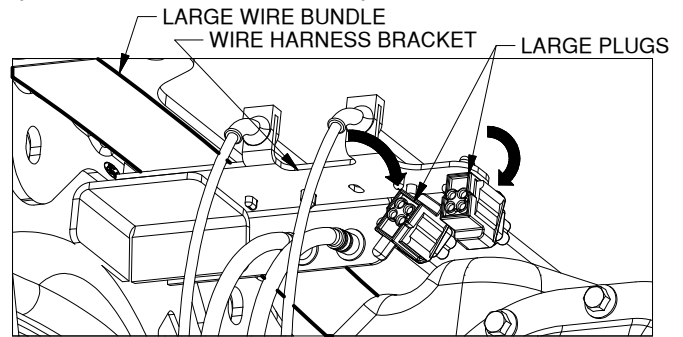
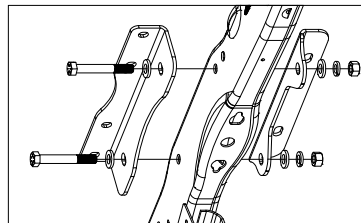

Figure B1: View looking up under the bed.
Figure B2: Driver side plates
- 2. Relocate wiring.** Locate the wiring harness bracket under the bed and over the axle attached to the driver side frame, see Figure B1. On top of the bracket, there are two large wiring plugs. Remove the plugs from the bracket by pulling the plastic ratchet connector out of the bracket. Move both plugs below the bracket. Reattach the plug on the outer edge of the bracket to the underside of the bracket. If the frame has inside side plates welded to it, push the large wiring bundle beneath the top edge of the side plate if it is above the side plates.
- 3. Install side plates.** Locate the outer, and if needed, the inner side plates. Install the side plates as shown in Figures B2 & B3, so that there is a side plate on the inside and outside of each frame member. Attach the side plates to the frame four places using a 5/8" x 4-1/2" cap screw, two flat washers, lock washer, and nut. Fasten hardware tight enough to hold the side plates against the frame but loose enough that they can still move up and down. Ensure that the large wiring bundle, shown in Figure B1, is under the driver side inner side plate.